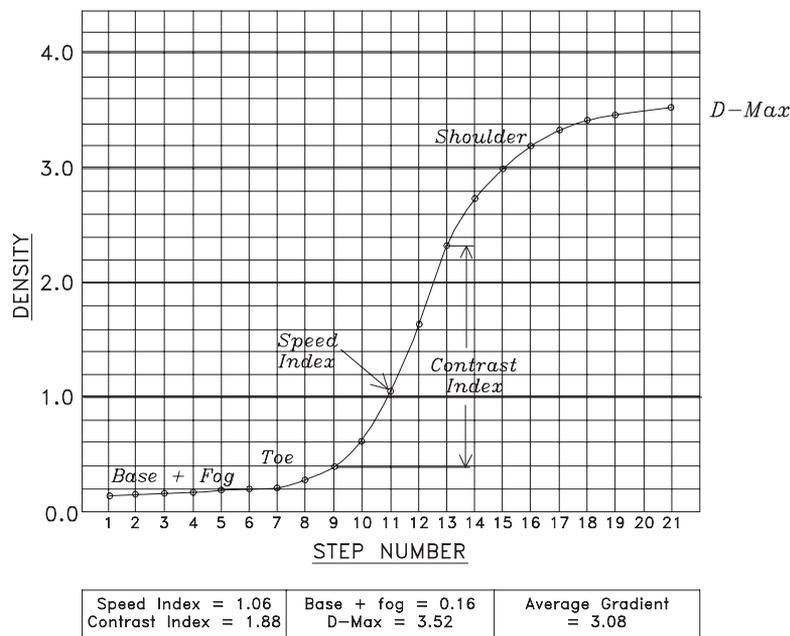
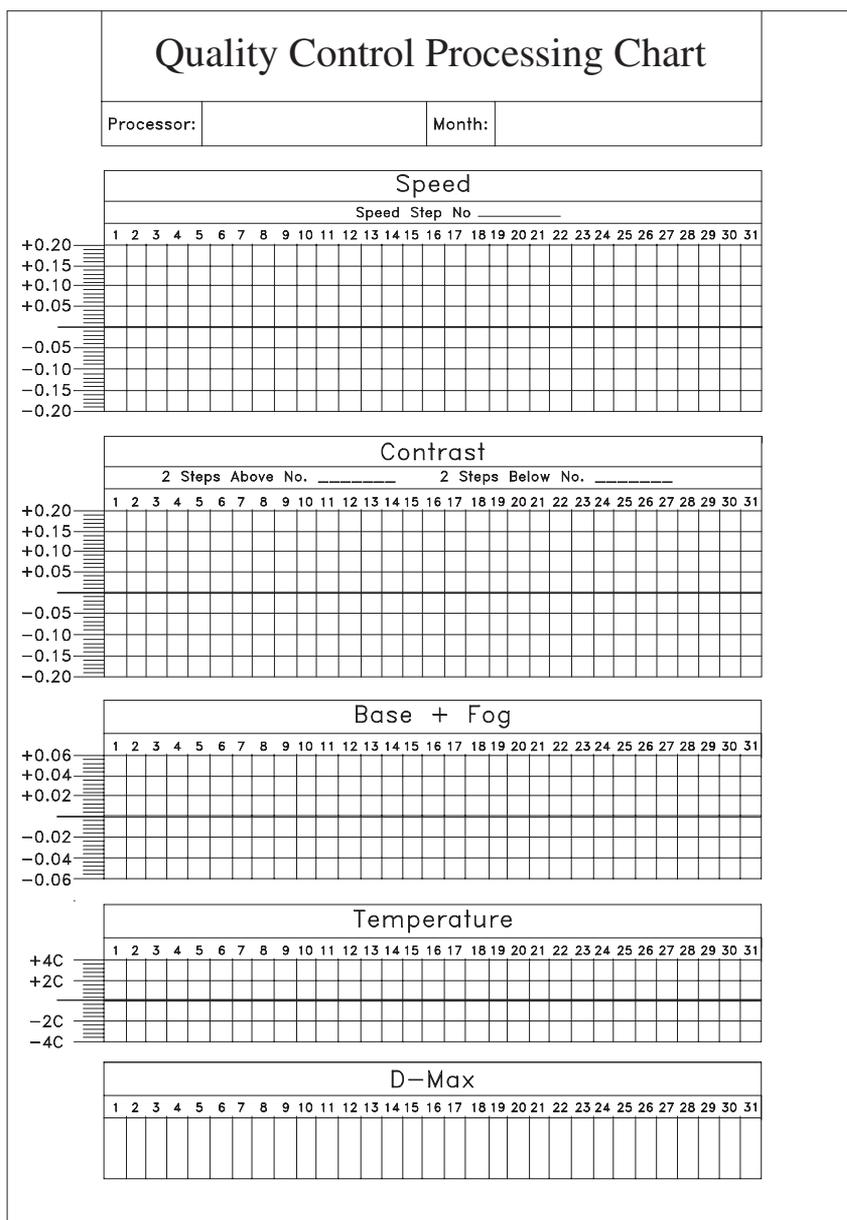

Fig A-2. Example of a characteristic curve
Fig A-3. Sensitometry charts for recording speed, contrast, base + fog, temperature and D-Max data
- Join up all the plots to form a free flowing curve. (See fig A-2).
- Calculate the 'Speed', 'Contrast', 'Base plus Fog (D-Min)', 'Temperature' and 'D-Max' and enter on the appropriate graphs. (See Fig A-2 and Fig A-3)
- Measure and plot the density of the speed steps daily. (See Fig A-2, Fig A-3, and Appendix C page 177.)
- Repeat this process daily, plotting the contrast indicator under appropriate dates. (See Fig A-2, Fig A-3, and Appendix C page 177.)
- Repeat this procedure daily, plotting the base plus fog density under appropriate dates. (See Fig A-2, Fig A-3, and Appendix C page 177.)
- Repeat this procedure daily, plotting Temperature under appropriate dates, (See Fig A-2, Fig A-3, and Appendix C page 177.)
- Record against the zero line of the **D-Max Chart**. Do this only on day one, after the chemistry has been freshly mixed. (See Fig A-2, Fig A-3, and Appendix C page 177.)